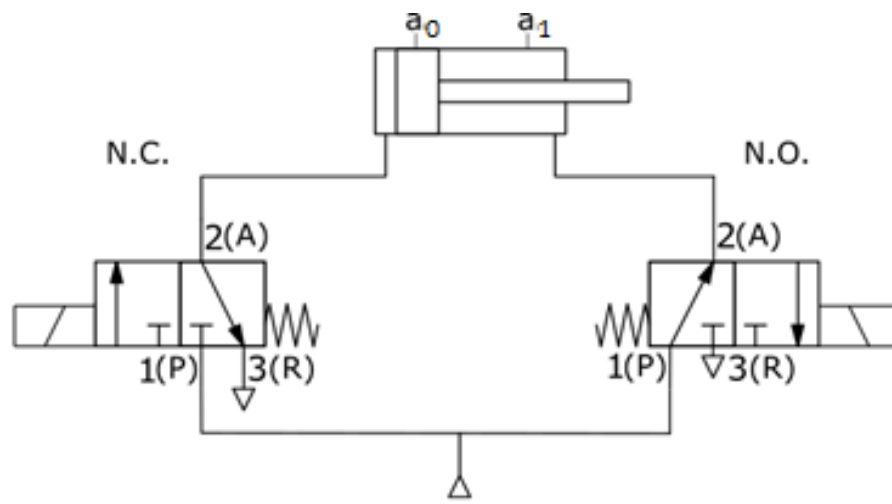

Fig.Q3A
- 3A. For a double acting cylinder drive as shown in Fig. Q3A, explain the working and position of the cylinder for all the possible combinations of solenoid valve actuation.